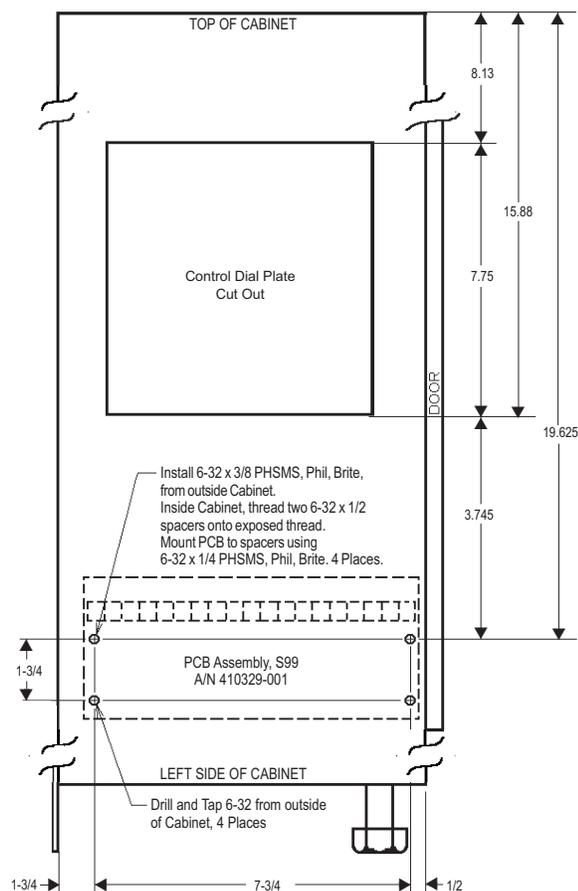

Figure E5. Mounting detail for “L”, “H”, “G” or “U” Cabinet with S99
3. Remove the four (4) screws mounting the Terminal Strip Input Board (A/N 410329) to the Cabinet. Rotate the Board 180° (so the terminal strip is at the top) and re-mount the Board using the same four (4) screws.
4. Drill and tap the left side of the cabinet per Figure E5, be sure to vacuum or otherwise remove ALL metal chips before installing four (4) 6-32 x 3/8 PHSMS, Phil., Brite from outside the cabinet. On the inside of the cabinet, mount two (2) 6-32 x 1/2 spacers (P/N 555031) on each exposed thread (4 places) to offset PCB 1" from cabinet wall.
5. Remove S99 PCB (A/N 410329-001) from bracket on rear panel, retaining 4 screws to mount TSS PCB in Step 6. Move S99 PCB to spacers on left side of cabinet; mount using four (4) 6-32 x 1/4 PHSMS, Phil., Brite. See Figure E5.